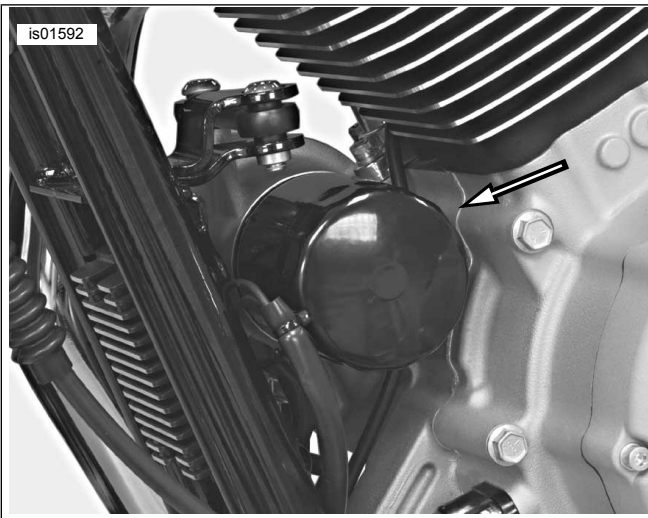
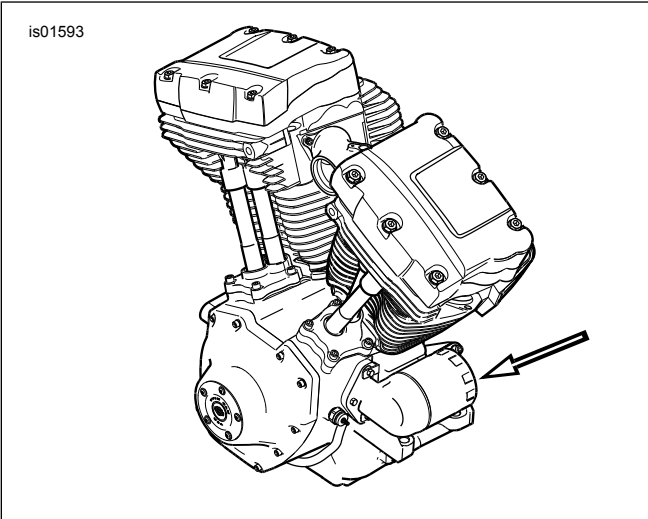

Figure 1. Spin-On Oil Filter (Sportster Evolution Engine)
Figure 2. Spin-On Oil Filter (Twin Cam Engine)
4. See Figure 1 and Figure 2. Remove existing spin-on oil filter using the Oil Filter Wrench. Refer to the instructions in the Service Manual for your model.